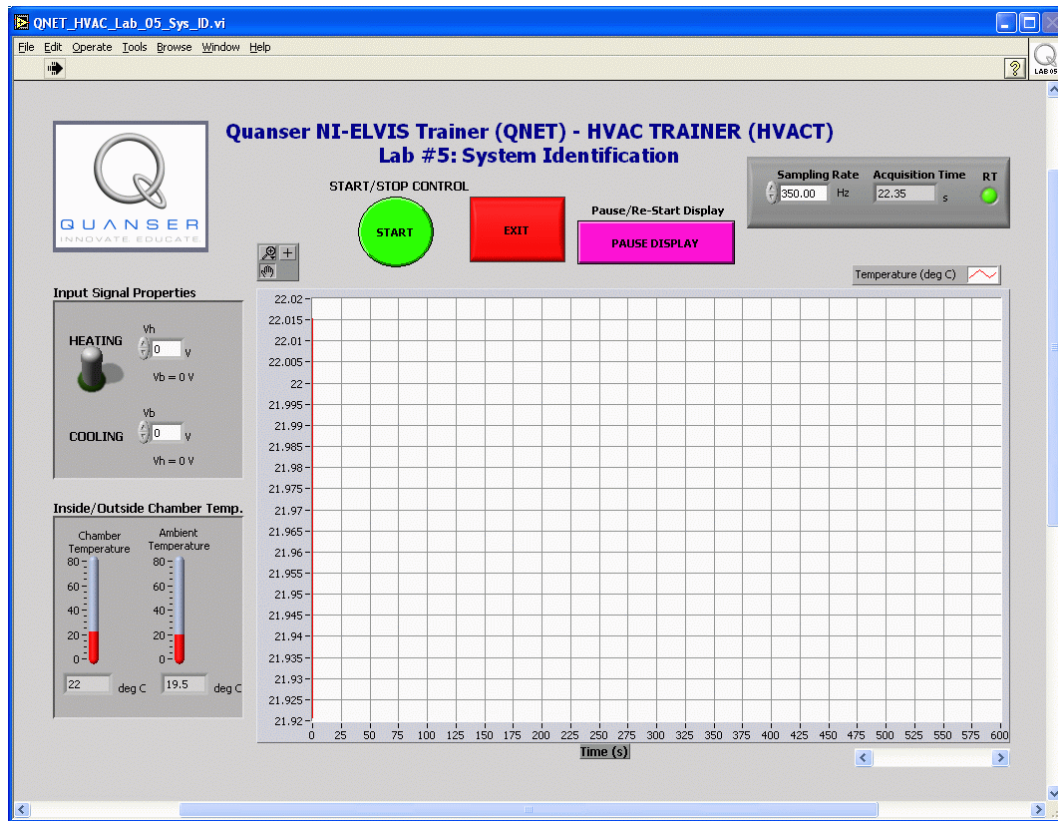

Figure 4 Front Panel Used for the QNET-HVACT System Identification Laboratory
- Step 2. Open the VI controller *QNET_HVAC_Lab_05_Sys_ID.vi* shown in Figure 4. The default sampling rate for the implemented digital controller is 350 Hz. However, you can adjust it to your system's computing power. Please refer to Reference [1] for a complete system's description. The chamber temperature, directly sensed by the thermistor, is plotted on a chart as well as displayed in a Numeric Indicator and a Thermometer located in the *Temperature (degC)* front panel box. The values are in degrees Celsius. Run the LabVIEW VI (Ctrl+R) to initialize the open-loop controller. At this point both heater and blower voltages (i.e. V_h and V_b) are set to zero and the